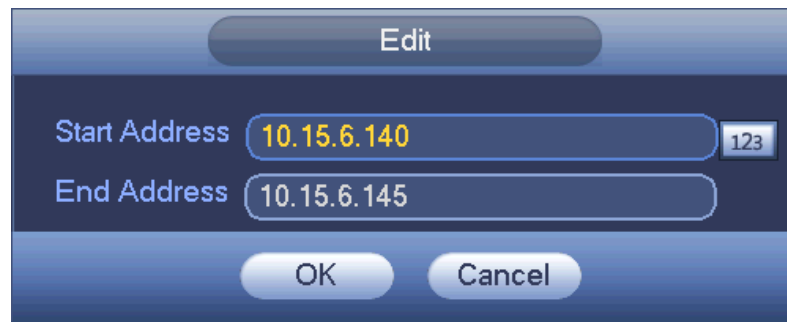

Figure 4-99
- Edit: Click it to edit start address and end address. See Figure 4-99. System can check the IP address validity after the edit operation and implement IPv6 optimization.